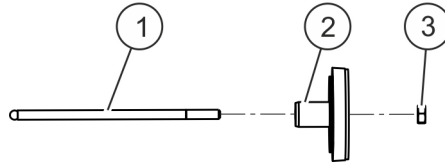

Fig. 9: Replacing the valve needle
6. ➤ Unscrew the nut ( Fig. 9/3) from the valve needle ( Fig. 9/1).
Screw the valve ( Fig. 9/1) needle out of the axis ring ( Fig. 9/2).